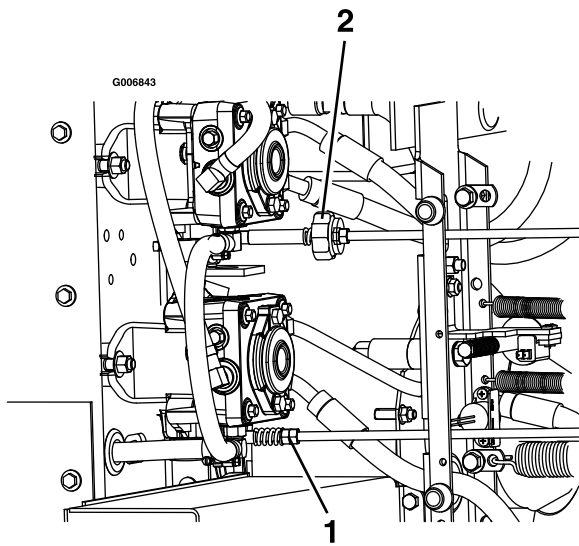

Figure 63
9. To obtain the NEUTRAL position, adjust the left and right pump control rod linkages that connect the steering control to the pump control arms until the wheels stop, or creep slightly in reverse (Figure 63).
11. Adjust the right pump linkage by using a wrench to turn the double nuts on the assembly (Figure 63)